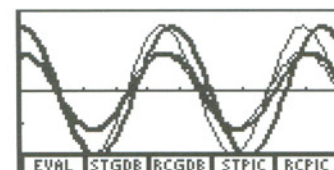

Figure 7.23
5. Press **[MORE]** **[MORE]** **[F5]** (**RCPIC**) to recall the picture from Step 3 (Figure 7.23) where you see that the linear and nonlinear models start to differ, even after only a few swings.